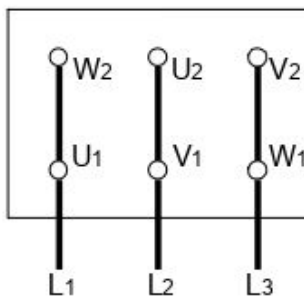

Fig. 12a.  $\Delta$  - connection
- The mains connection on the tagboard depends on the nominal power of the motor, the power supply and the type of connection. The necessary connection of the bridges in the terminal box is shown in the following (Table 1. and Fig. 12a, 12b, 12c).